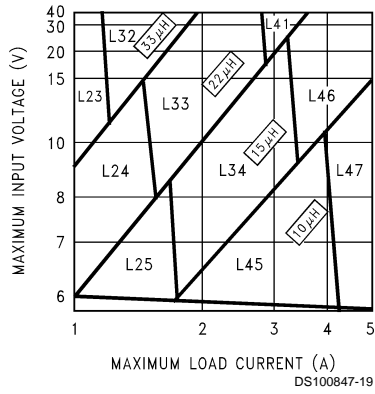
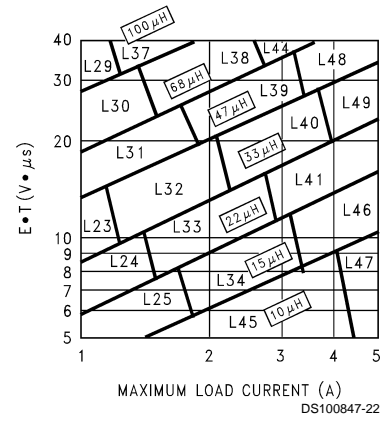

FIGURE 3. LM2679-3.3
FIGURE 6. LM2679-ADJ
Step 3: Determine the inductor required by using one of the four nomographs, *Figure 3* through *Figure 6*. Table 1 provides a specific manufacturer and part number for the inductor.
Step 5: Determine an input capacitor from Table 4 for fixed output voltage applications. Use Table 2 to find the specific capacitor type. For adjustable output circuits select a capacitor from Table 2 with a sufficient working voltage (WV) rating greater than $V_{in\ max}$, and an rms current rating greater than one-half the maximum load current (2 or more capacitors in parallel may be required).
Step 3: Use the nomograph for the 3.3V device, *Figure 3*. The intersection of the 16V horizontal line ($V_{in\ max}$) and the 4A vertical line ($I_{load\ max}$) indicates that L46, a 15 μ H inductor, is required.
Step 3: To use the nomograph for the adjustable device, Figure 6, requires a calculation of the inductor Volt•microsecond constant ($E \cdot T$ expressed in $V \cdot \mu\text{s}$) from the following formula:
Using Figure 6, the intersection of 27V• μs horizontally and the 3.5A vertical line (I_{load} max) indicates that L48, a 47 μH inductor, or L49, a 33 μH inductor could be used. Either inductor will be suitable, but for this example selecting the larger inductance will result in lower ripple current.
Important Note: When using the adjustable device in low voltage applications (less than 3V output), if the nomograph, Figure 6, selects an inductance of 22 μH or less, Table 6 does not provide an output capacitor solution. With these conditions the number of output capacitors required for stable operation becomes impractical. It is recommended to use either a 33 μH or 47 μH inductor and the output capacitors from Table 6.